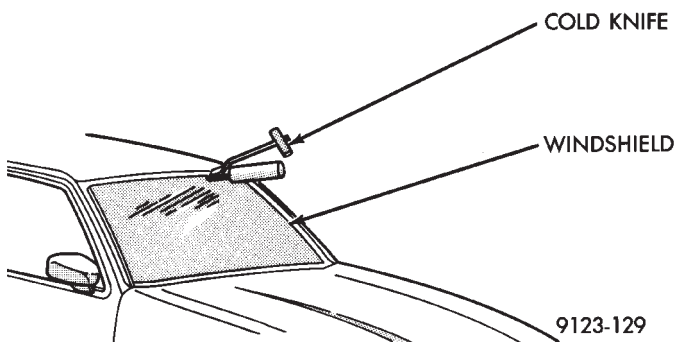

Fig. 4 Cut Urethane Around Windshield—Typical WINDSHIELD INSTALLATION
- (4) Cut urethane bonding from around windshield using a suitable sharp cold knife. A pneumatic cutting device can be used if available (Fig. 4).
- (5) Separate windshield from vehicle.